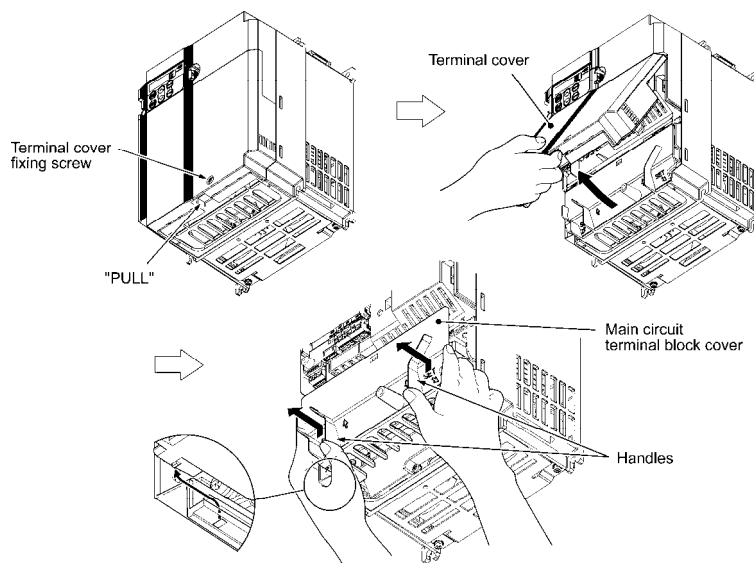

Figure 4.2 Removing the Covers (For Inverters with a Capacity of 5.5 and 7.5 kW)
- ① To remove the terminal cover, first loosen the terminal cover fixing screw, put your finger in the dimple of the terminal cover (labelled "PULL"), and then pull it up towards you.
- ② To remove the main circuit terminal block cover, put your thumbs on the handles of the main circuit terminal block cover, and push it up while supporting it with your fingers (Refer to Figure 4.2).